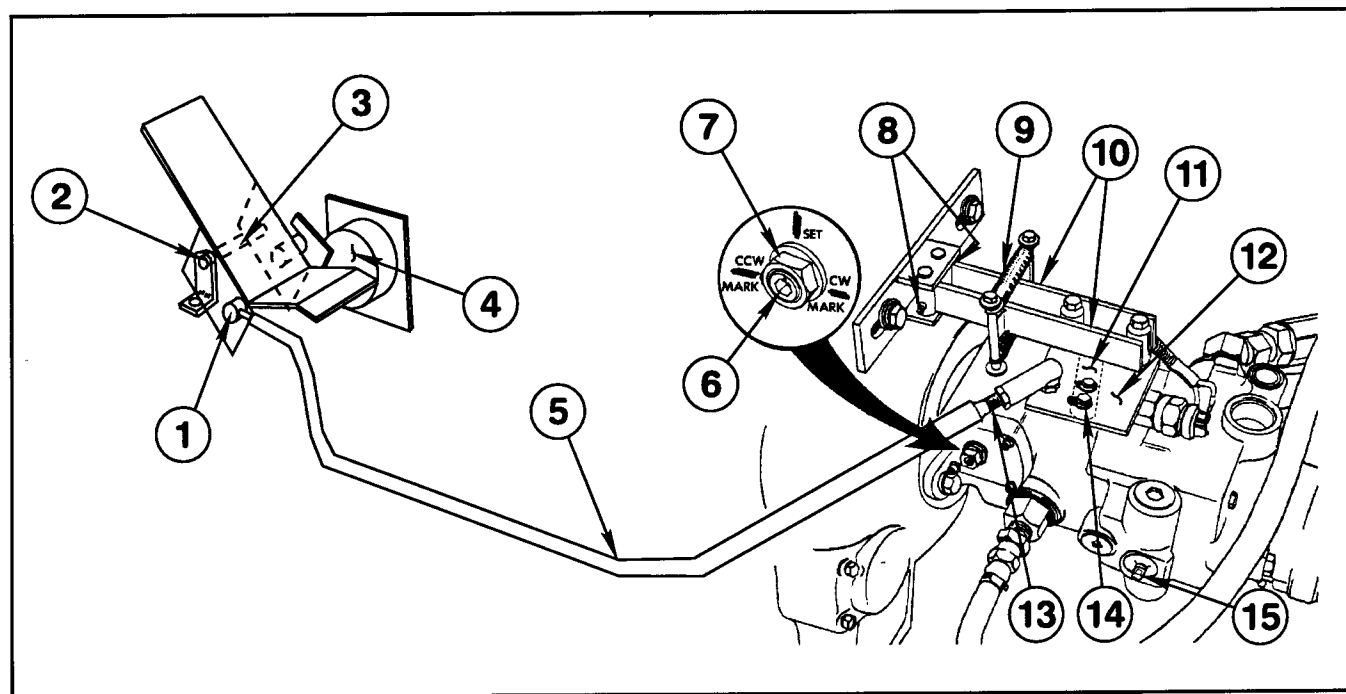

Figure 43
## LINKAGE MAINTENANCE (FIG. 43)
It is very important that the foot pedal operate freely and return positively to the NEUTRAL or CENTERED position. Periodic maintenance of the traction pedal requires applying grease to the grease fittings on the linkage control arms as shown in Fig. 43.
## LINKAGE TROUBLESHOOTING (FIG. 43)
## TRACTION PEDAL / TRANSMISSION NEUTRAL ADJUSTMENT (Fig.43)
4. Pull both control arms away from the control plate bearings (Fig. 43). When the control plate is adjusted correctly, the control plate **WILL NOT** rotate when the control arms are pulled away.
7. To adjust the control plate, loosen the two control plate mounting bolts, so it allows the control plate to center itself and allows the servo control arm to move independently as shown in Fig. 43 Retighten the two control plate mount bolts and verify the proper adjustment by pulling both control arms away from the control plate bearings. The control plate **SHOULD NOT ROTATE!** After proper adjustment proceed to STEP 10.